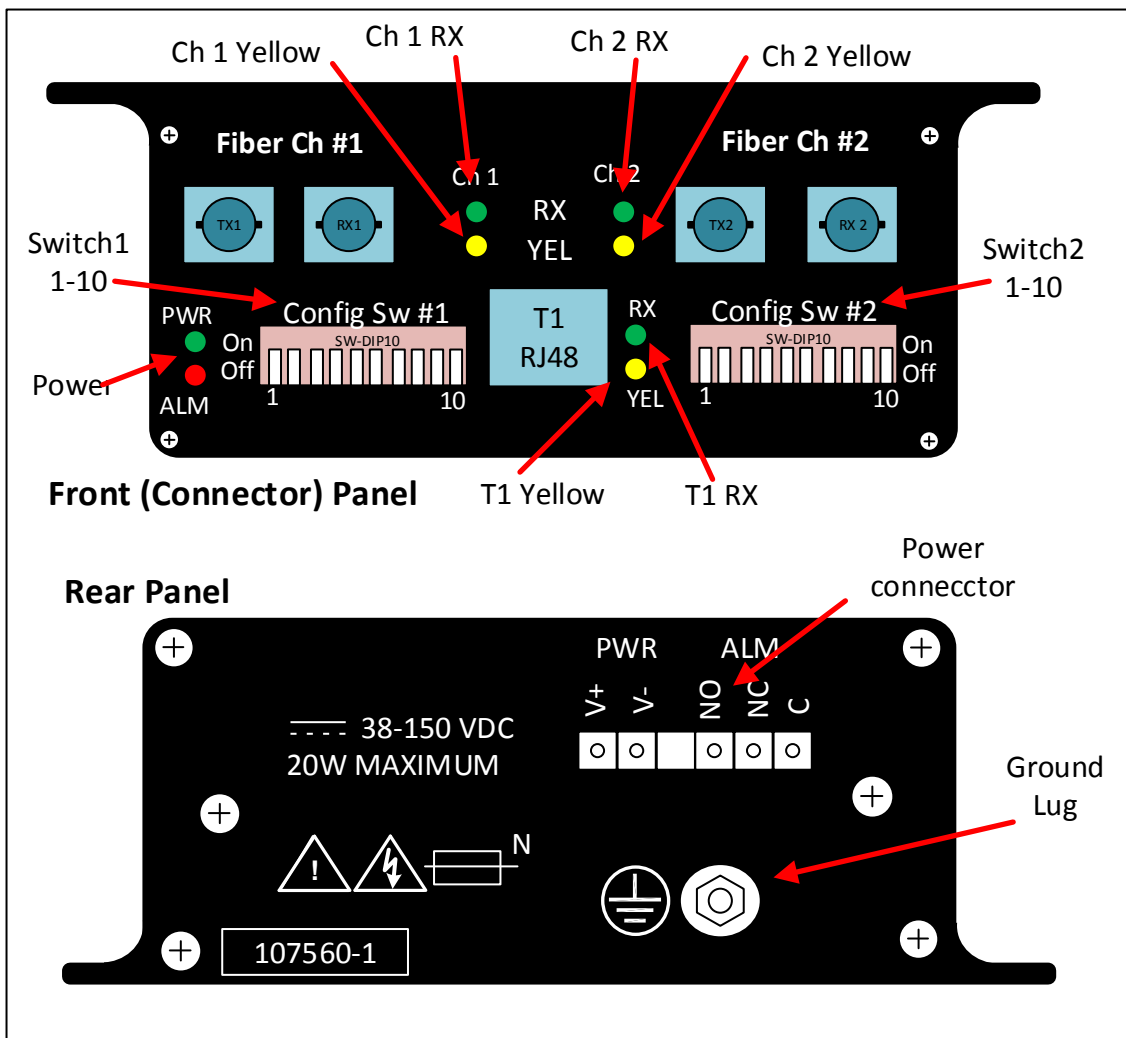
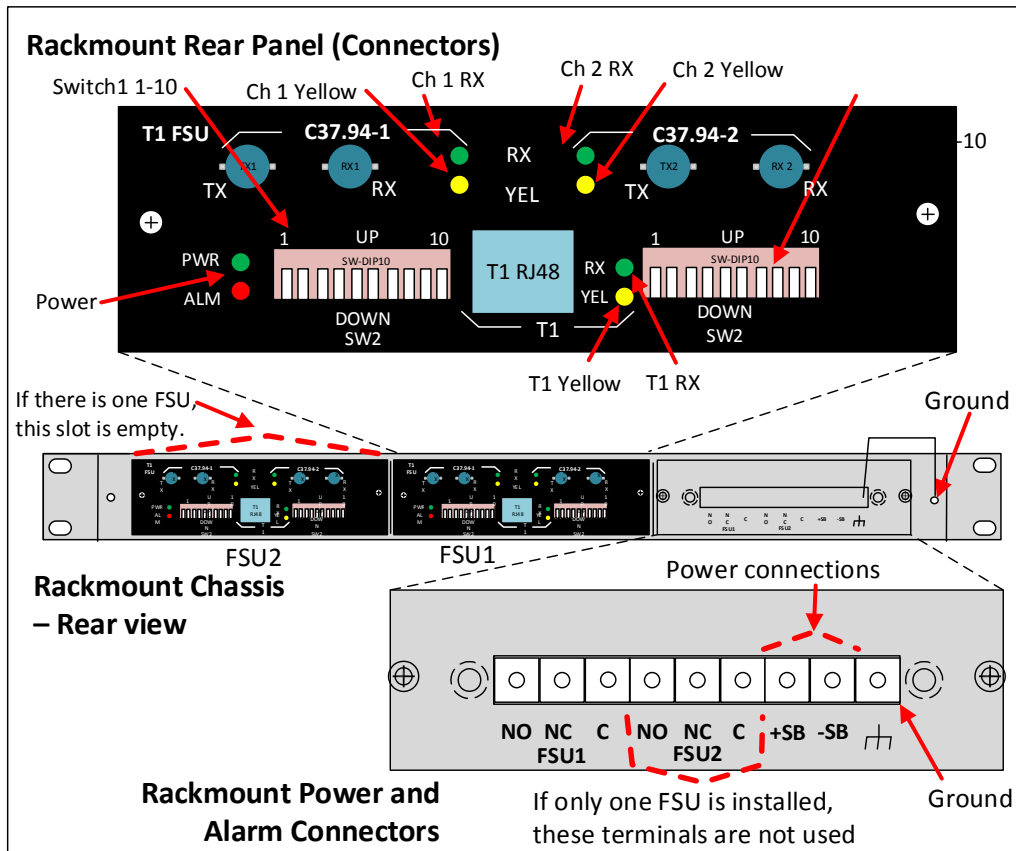

Figure 5 Wall-Mount FSU, front and rear panel controls and indicators (107560-1 and 107560-2)
Figure 7 Rackmount FSU, rear panel controls and indicators (107580-1 through -4)
For more information see FIGURE 5
For more information see FIGURE 7
4. Connect input power to the following terminals on the rear-panel terminal block connector TB1, as shown in the back panel in FIGURE 5 for the wall-mount unit and FIGURE 7 for the rackmount unit.
5. Fiber optic cables with type ST series bayonet fiber optic connectors must be connected to the fiber optic heads on the connector panel of the FSU and to the far end chassis. The connection points are shown in FIGURE 5 for the wall-mount unit and FIGURE 7 for the rackmount unit. When connecting fiber optic cables, make sure the connectors are properly aligned before locking. This will help minimize losses in the connector.
Note: In the following figure the blocks representing the 107560 and 107580 emphasize signal flow. For the connectors see FIGURE 5 for the wall-mount unit and FIGURE 7 for the rackmount unit.
The HPS/RFL C37.94-T1 Wall-Mount and Rackmount FSU (107560 and 107580 respectively) have user controls and indicators as shown in FIGURE 5 for wall-mount and FIGURE 7 for rackmount.
FIGURE 5 shows the location of all controls, indicators and connectors on the front and rear panels of the FSU Wall-mount. The wall-mount FSU indicators are described TABLE 3 and controls (switches) are described in TABLE 5.
FIGURE 7 shows the location of controls, indicators and connectors on the rear panels of the FSU rackmount. Rackmount FSU indicators are described **TABLE 3** and controls are described in **TABLE 5**.
- Rackmount (back panel, FIGURE 7)
- Wall-Mount (front panel, FIGURE 5)